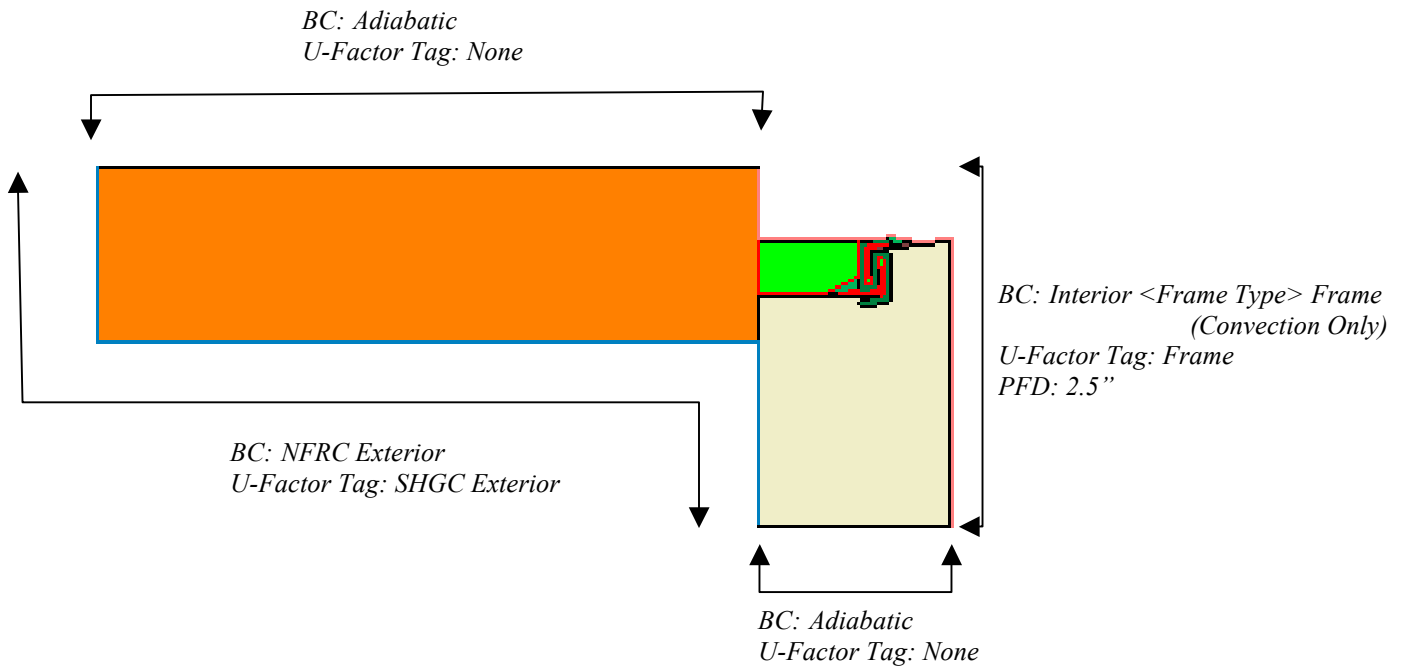

Figure 2: Top Rail Model
A nominal 2x6 wood block is used in the Top Rail Model as shown in Figure 2. The torsion spring assembly, and any non-continuous hardware, shall not be included in this model. The boundary condition (BC) type and U-factor tags used in the model are described in Figure 2.